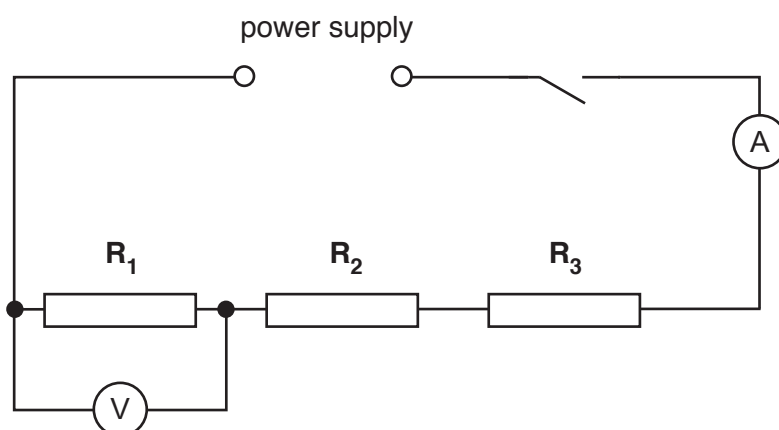

Fig. 2.1
- (vi) Sufficient connecting leads to construct the circuit shown in Fig. 2.1.
1. The circuit is to be connected by the Supervisor as shown in Fig. 2.1.
Set up the circuit so that it is arranged as shown in Fig. 2.1.